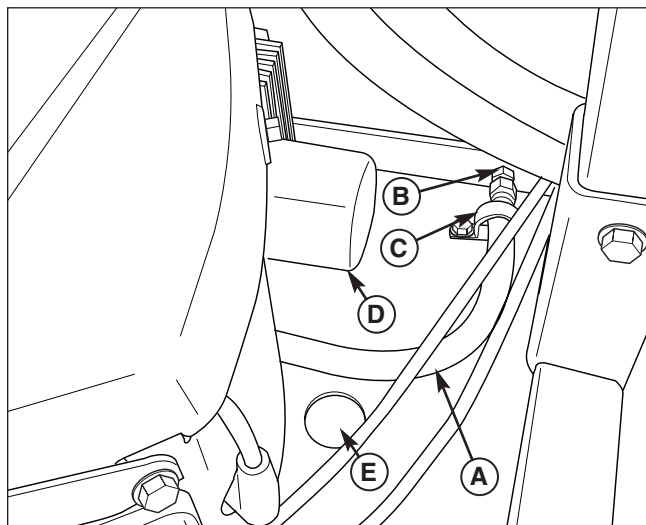

Figure 20. Engine Oil Drain
2. Remove the oil drain hose (A, Figure 20) from the cable clamp (C) that is located on the engine deck on the right-hand side of the frame. Place the drain hose down through the hole (E) in the engine deck.